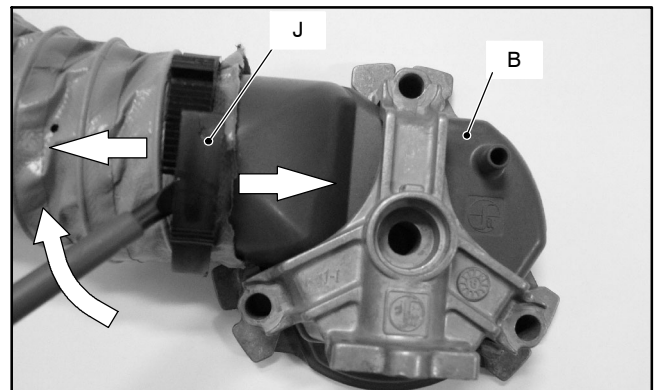

Fig. 10.4
- 10 Open the strip *J* by sliding the edges with the help of a screwdriver and remove the Air box (Fig. 10.4).